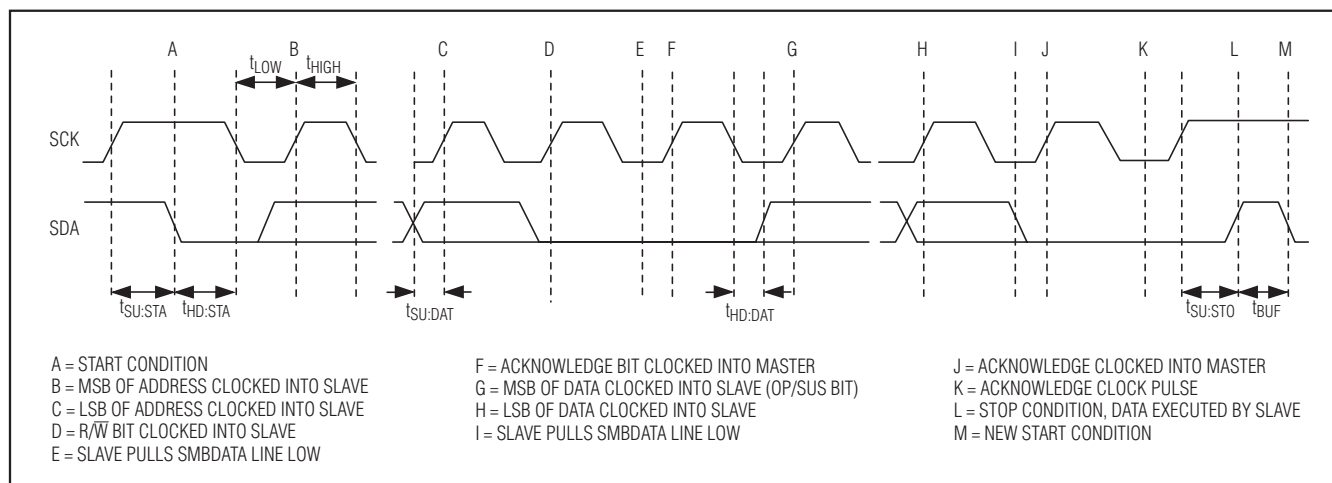

Figure 2. I²C Timing Diagram
An I²C 2-wire serial interface is provided on the MAX8879 to control LED brightness, flash, temperature deration, and RGB ramp rate. The serial interface consists of a serial data line (SDA) and a serial clock line (SCK). Standard I²C write-byte commands are used. Figure 2 shows a timing diagram for the I²C protocol. The MAX8879 is a slave-only device, relying upon a master to generate a clock signal. The master (typically a microprocessor) initiates data transfer on the bus and generates SCK to permit data transfer. A master device communicates to the MAX8879 by transmitting the proper 8-bit address (0x9A) followed by the 8-bit control byte. Each 8-bit control byte consists of a 3-bit command code and 5 bits of data (see Table 1). Each transmit sequence is framed by a START (A) condition and a STOP (L) condition (see Figure 2). Each word transmitted over the bus is 8 bits long and is always followed by an acknowledge clock pulse.